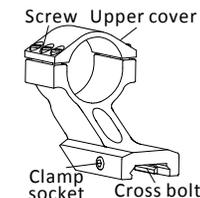

Fig3 Mount bracket
- The mounting bracket (Fig 3) is for attaching the sight to the weapon. The sight comes with mounting bracket attached.
- 2) Insert included Torx wrench into the clamp socket, then rotate to loosen the cross bolt (as shown in Fig 3). Slide the sight into the weapon rail to a convenient position, and finally tighten the clamp screw.